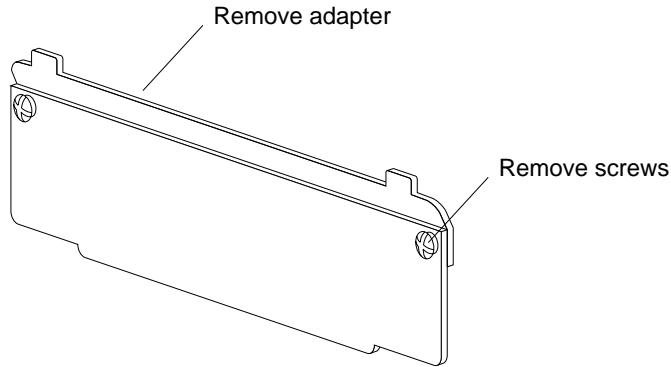

FIGURE 4-16 SBus Card Rear Panel With Adapter
2. **Remove the adapter bracket from the SBus card rear panel (FIGURE 4-16).**
3. **Remove the adapter bracket from the rear panel of the card** (FIGURE 4-16).